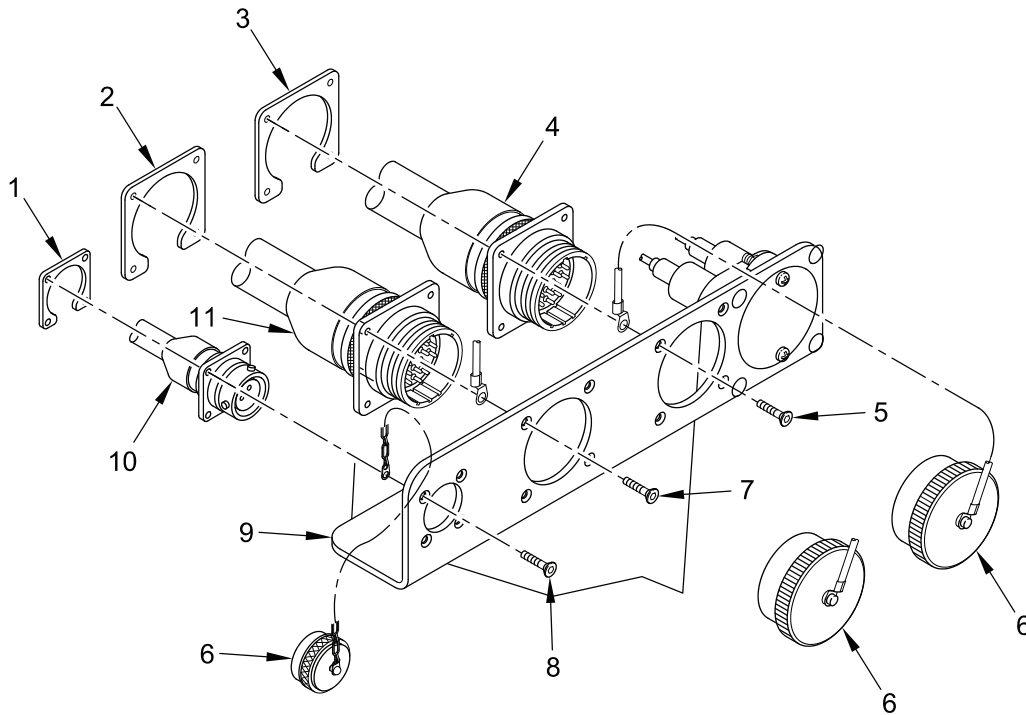

Figure 1. Replacing HDC Disconnect Bracket
1. Remove dust caps (Figure 1, item 6) from wiring harness connectors W1J1 (Figure 1, item 10), W2J1 (Figure 1, item 11), and W3J1 (Figure 1, item 4).
2. Remove four screws (Figure 1, item 8), nutplate (Figure 1, item 1), and wiring harness connector W1J1 (Figure 1, item 10) from disconnect bracket (Figure 1, item 9).
3. Remove four screws (Figure 1, item 7), nutplate (Figure 1, item 2), and wiring harness connector W2J1 (Figure 1, item 11) from disconnect bracket (Figure 1, item 9).
4. Remove four screws (Figure 1, item 5), nutplate (Figure 1, item 3), and wiring harness connector W3J1 (Figure 1, item 4) from disconnect bracket (Figure 1, item 9).